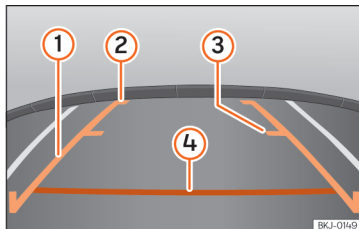

Fig. 167 Display on the Infotainment system screen.: guide lines.
- Vehicle load modifies the representation of the guide lines »» Fig. 167. The width represented by the lines decreases with vehicle load. Pay special attention to the surroundings when the inside of the vehicle or the luggage compartment are loaded.
Meaning of the orientation lines »» Fig. 167